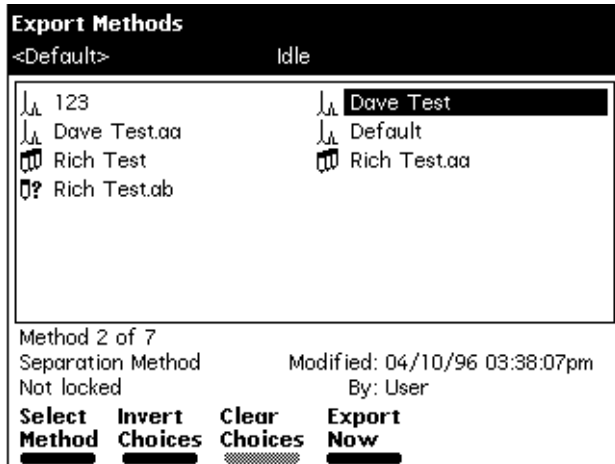

Figure 6-21 Export Methods Screen
- Press the **Export Methods** screen key. The Export Methods screen appears, displaying a list of currently stored methods (Figure 6-21).